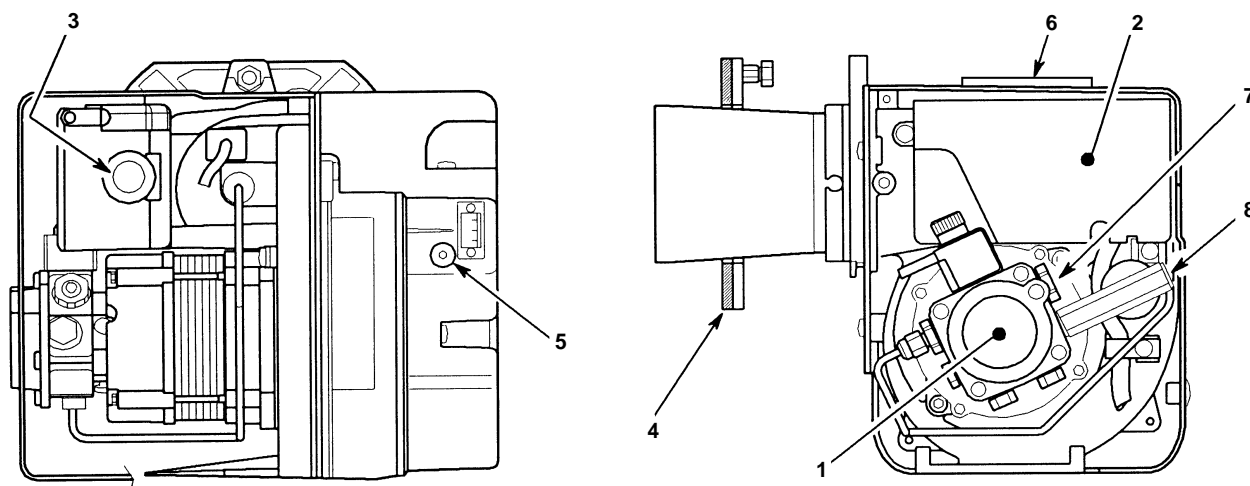

Fig. 31 - RDB burner components
- 4 Connect a combined vent manifold and pressure gauge to the pressure gauge connection port on the oil pump. See Fig. 31. Open the vent screw on your vent manifold to vent the supply while the pump is running.
- 8 With the burner alight, check the fuel pressure. Refer to the Technical Information, sections 2.2 and 2.3. Adjust the pressure if necessary - see Fig. 31.
- 13 Check the smoke number, if satisfactory check the CO2. Adjust the burner air regulator, see Fig. 31. Turning the screw clockwise closes the damper and increases CO2 level, turning the screw anticlockwise opens the damper and reduces CO2 level.